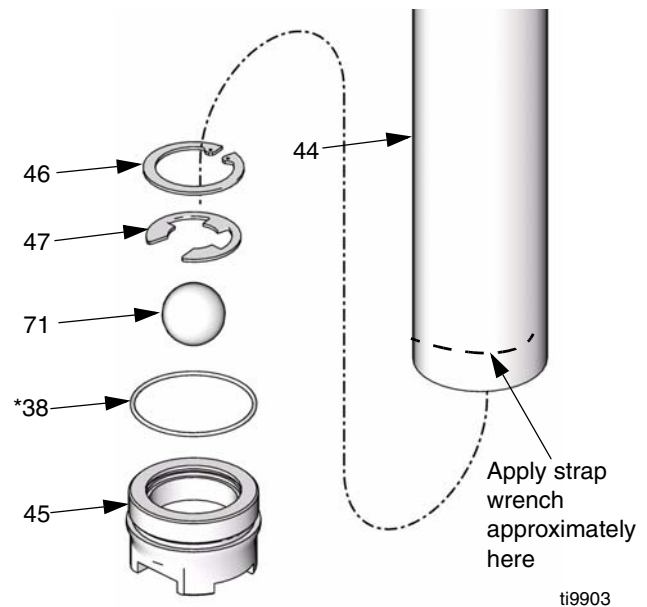

FIG. 16
- Use a strap wrench at the point indicated in FIG. 16, and a wrench on the flats of the foot valve (45) to remove the foot valve from the suction tube (44). Remove snap ring (47), retaining clip (46), ball (71), and o-ring (38\*) from foot valve (45). Inspect all parts for damage. See FIG. 16.